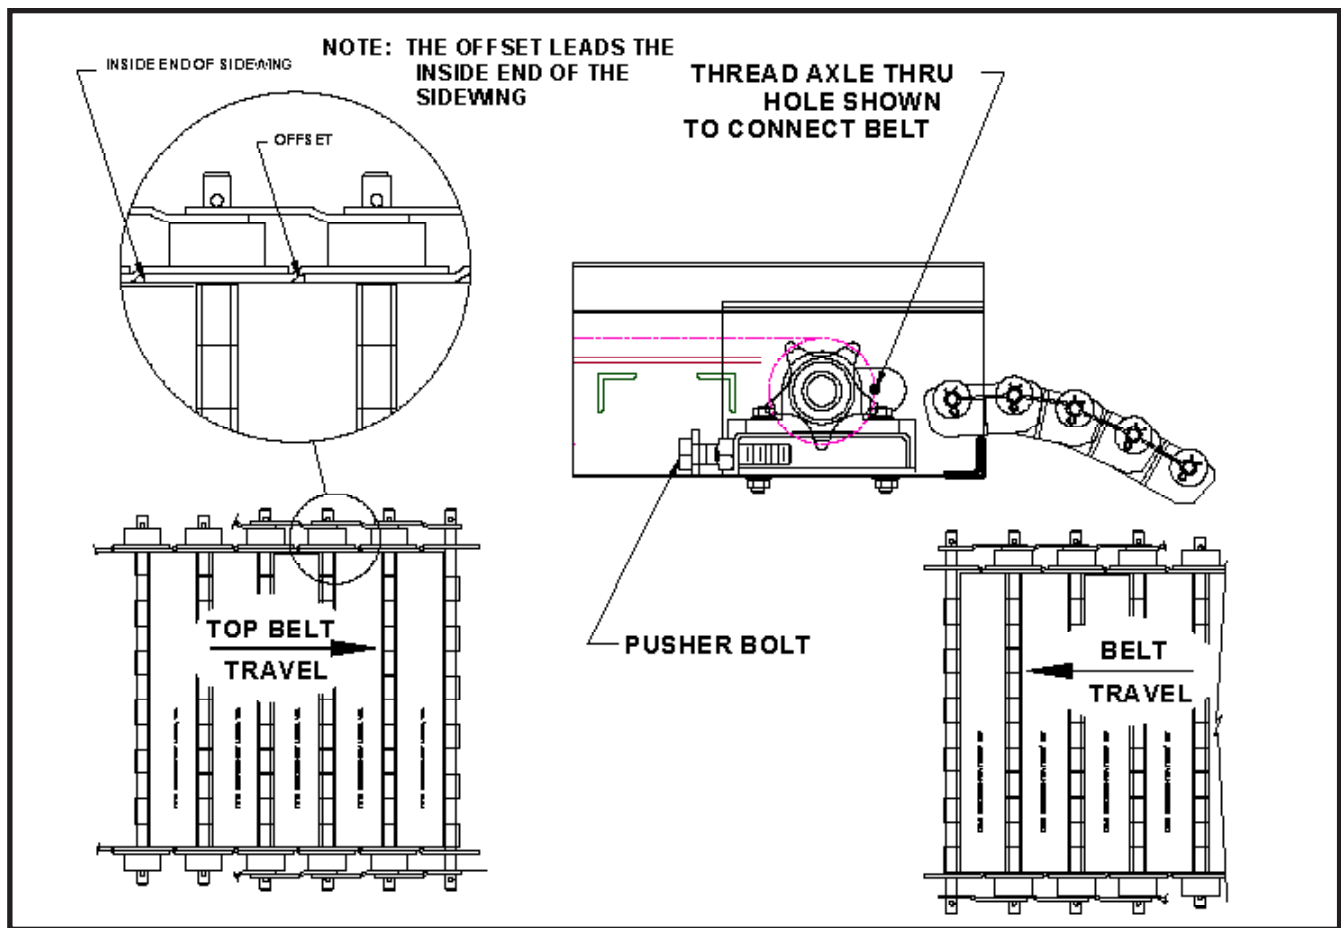

FIGURE 4
3. Feed the belt upside down into the return track. See FIGURE 4. If your belt was shipped in more than one section leave a length of belt outside the frame to allow for connection of the next section of belt.
5. For final connection thread an axle thru the hole provided in the head plate to join the interlocking belt ends. See FIGURE 4
2. Run the belt for several hours before placing the conveyor into production. During this time watch how the belt is tracking. If the belt is running off to one side, loosen the bearing (on the drive end), on that side and with the pusher bolt provided (See FIGURE 4) move the driveplate out slightly. This will force the belt towards the opposite side. When the belt is tracking properly, tighten down the bearing and lock the pusher bolt in place with the locking nut provided.